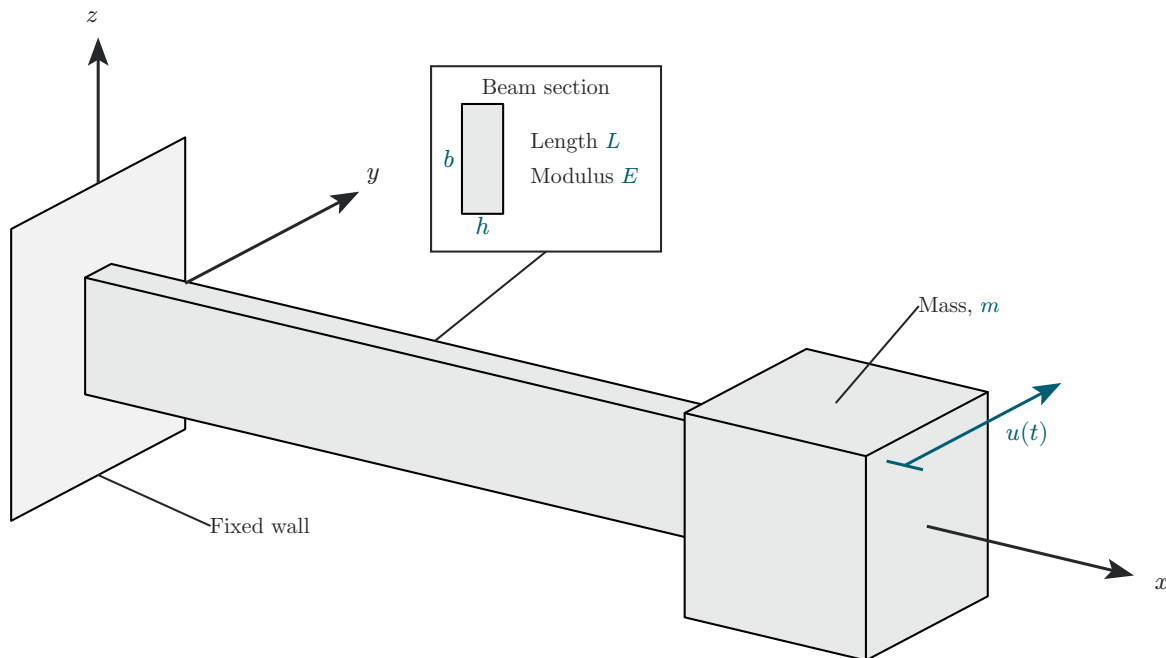

Figure 21: Horizontal flex-beam vibrating system.
Consider a cantilever beam of length L with a mass m attached at its tip as shown in Figure 21. The beam cross-section properties are E , h , b .
- (1) Assume vibration with horizontal time-varying displacement $u(t)$ as shown in Figure 21.
- (2) Calculate the cross-sectional stiffness EI of the beam for flexural deformation consistent with $u(t)$.
- (3) Calculate the flex-beam spring constant k .
- (4) Draw free-body diagram (FBD) including all the forces acting on the mass m .
- (5) Deduce equation of motion (EOM).
- (6) Compare the EOM deduced here with the EOM derived in Problem B.1.
- (7) Solve the initial value problem (IVP) and find the response for simultaneous application of both initial displacement u_0 and initial velocity $\dot{u}_0$.